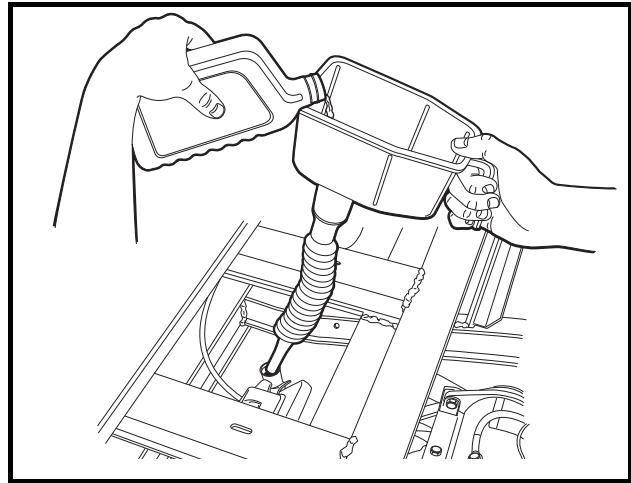

Figure 13-12 Add Engine Oil
7. Install oil drain plug in the crankcase and tighten to 20 ft-lb (27.1 N·m). Apply a light film of oil on the seal of a new oil filter and install the filter on the crankcase. Fill the crankcase to the proper level with the correct type of oil (**Figure 13-12, Page 13-9**). **See Periodic Lubrication Schedule, Section 10, Page 10-3.**